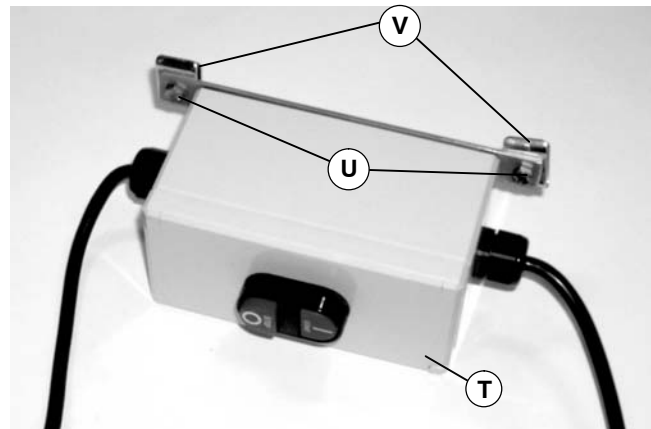

Figure 20
1. Attach two accessory mounting clips (V of Figure 20) to motor starter (T) with two M6 x 20mm hex head cap screws (U). Do not tighten screws.